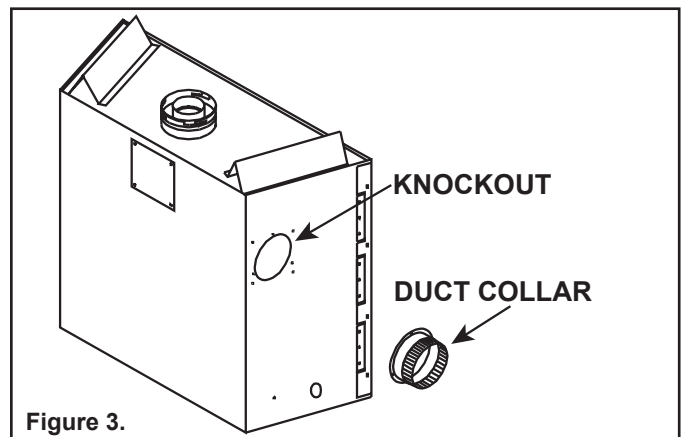
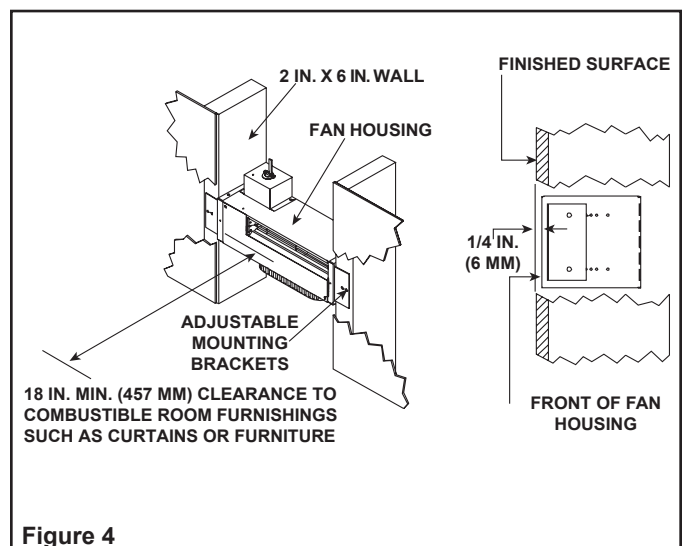

Figure 3.
Figure 4
**Note:** A minimum clearance of 18 inches to any combustible materials or combustible surfaces such as room furnishings, furniture, curtains, etc., is required from the fan housing air outlet. Plan for this clearance prior to installation of the Heat-Zone-Gas kit. See Figure 3 and Figure 4.
1. Remove the knockout or cover plate from the side or top of the appliance and discard it. See Figure 3.
4. Mount and secure the fan housing assembly to framing members so the front surface is 1/4 in. (6 mm) below the finished wall or floor surface. Use the adjustable mounting brackets and screws provided in the kit. See Figure 4 and Figure 5. It may be desirable to add the drywall template to the fan housing at this time. The drywall template can be removed and discarded after finishing material has been added. See Figure 6.